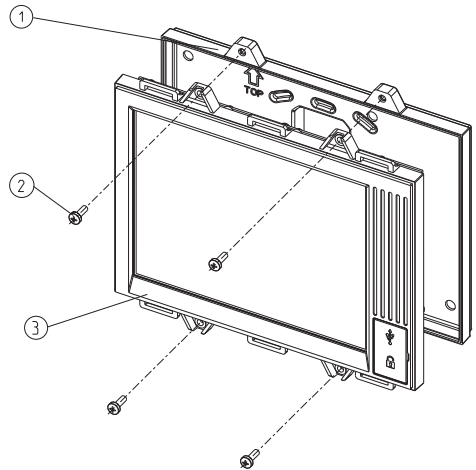

Fig. 6: Installation Overview of Zonal Display Mounting with Shallow Back Cover
- 5 Mount the zonal display front cover (3) to the deep back cover (1) using the four screws (2) supplied. Refer to Fig. 6.